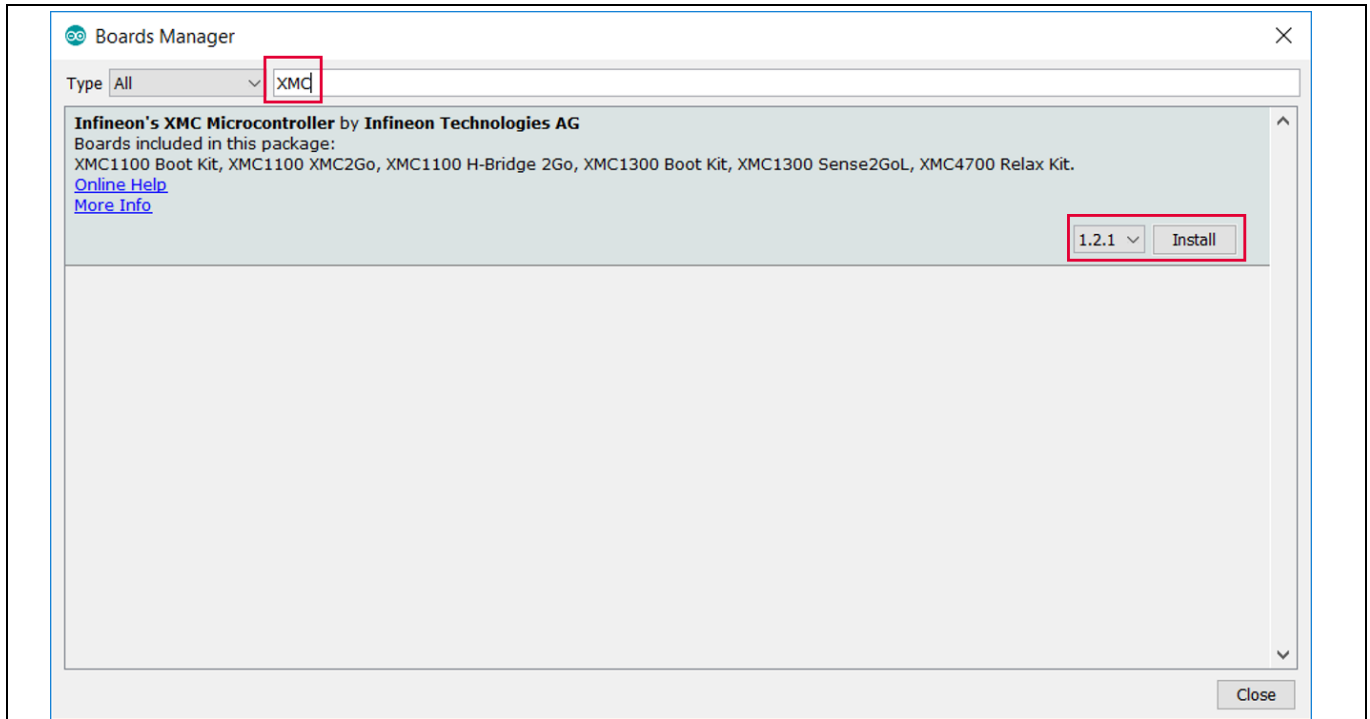

Figure 9 Installing the XMC package
4. Navigate to *Tools > Board > Boards Manager* (Figure 9). Type “XMC” into the search field. Select the latest version from the drop-down box and click “Install”.